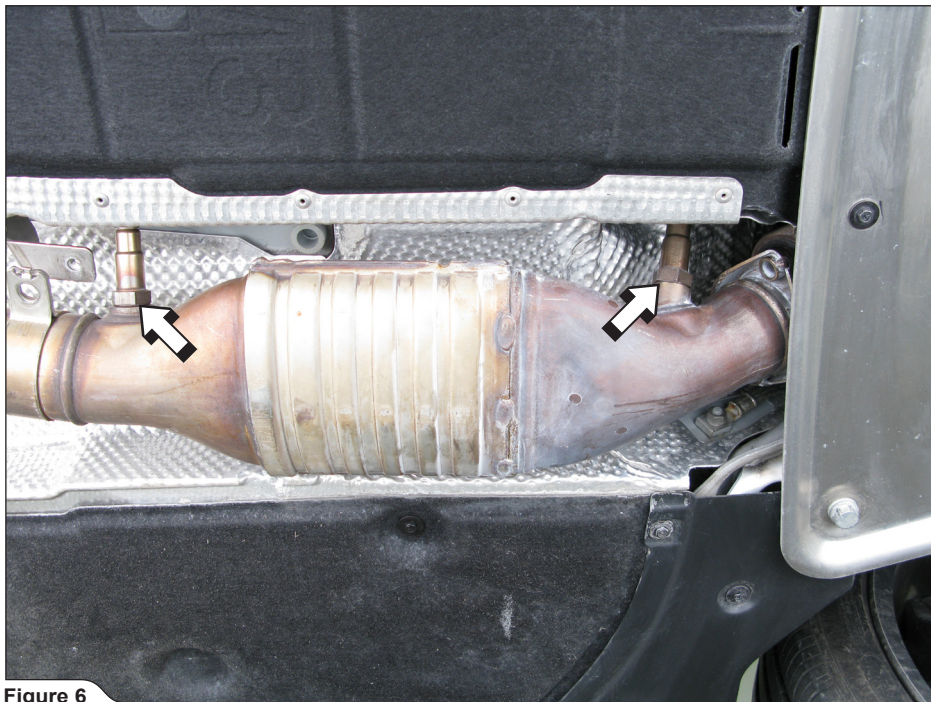

Figure 6
6. **For Evolution:** unscrew all four lambda sensors on both sides of the vehicle (**Figure 6**).